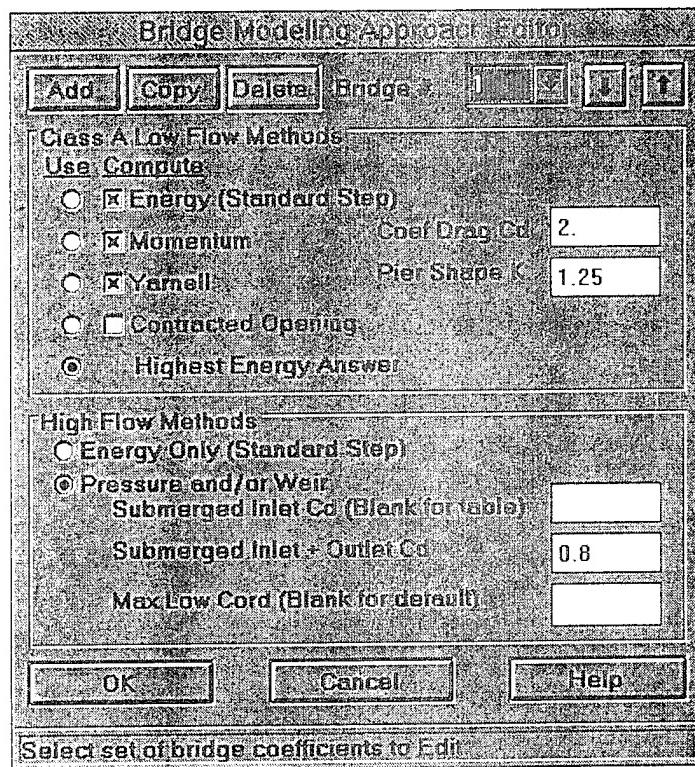

Figure 6.17 Bridge Modeling Approach Editor
**Bridge Modeling Approach.** The Bridge Modeling Approach editor is used to define how the bridge will be modeled and to enter any coefficients that are necessary. To bring up the Bridge Modeling Approach editor press the **Bridge Modeling Approach** button on the Bridge/Culvert Data editor. Once this button is pressed, the editor will appear as shown in Figure 6.17 (except yours will only have the default methods selected).